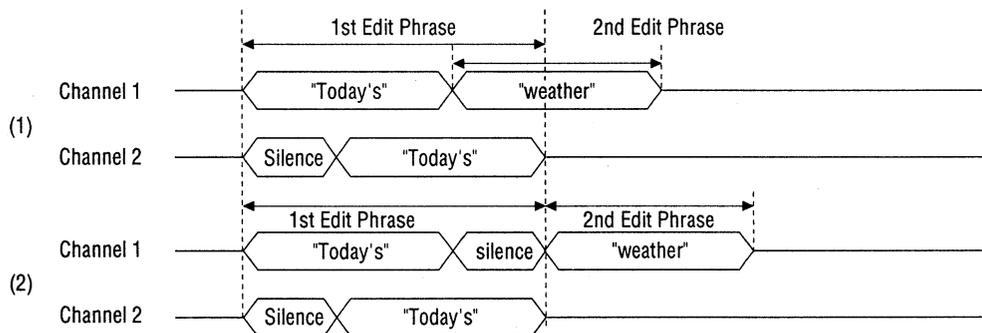

Figure 13.2 Example of Continuous Regeneration Timing
However, this occurs only when the channel setting of the 1st and 2nd edit phrase are the same, and when echo regeneration and channel 2 regeneration are not performed. For example, if the 1st edit phrase is echo regeneration, and the 2nd edit phrase channel 1 regeneration, as shown in Figure 13.2 (1), then 2 edit phrases overlap.
To avoid this, insert silence to channel 1, as shown in Figure 13.2 (2), and set edit data ROM so that channels 1 and 2 end regeneration at the same time.